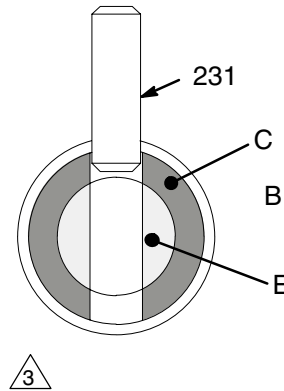

Fig 2
2. Start the engine. Jog the pressure control ON/OFF switch until the connecting rod (C) stops near the bottom of the stroke and is fully exposed. See Fig 2. Shut off the engine.
5. Remove the outlet hose. Slightly loosen the two pump mounting screws (D). See Fig 2.
6. Use a small screwdriver to push in the connecting rod pin (231) just until you can gently pry the retaining ring (B) up from the back of the connecting rod. Push the pin in so it falls out the back.
1. Push the pin (231) just barely into the connecting rod (C), but not into the mating hole of the pump piston rod (E).
2. Pull piston rod (E) out of pump 2 - 3 in. (50-75 mm).
3. Align the flats of the piston rod (E) and the pump outlet. Lift the pump into position and gently push on the pin (231) while moving the pump slightly until the pin slips into the hole. Be sure the retaining ring (B) snaps down over the end of the pin.
4. Check the back of the bearing housing (A) to be sure the parts are installed properly.
5. Lift the pump to align the mounting holes and install the mounting screws (D). **IMPORTANT** – torque the screws to 20 ft-lb (27 N.m). See Fig 2.
Be sure the retaining spring (B) is firmly in the groove of the connecting rod (C), all the way around, to prevent it from working loose due to vibration. See Fig 2.